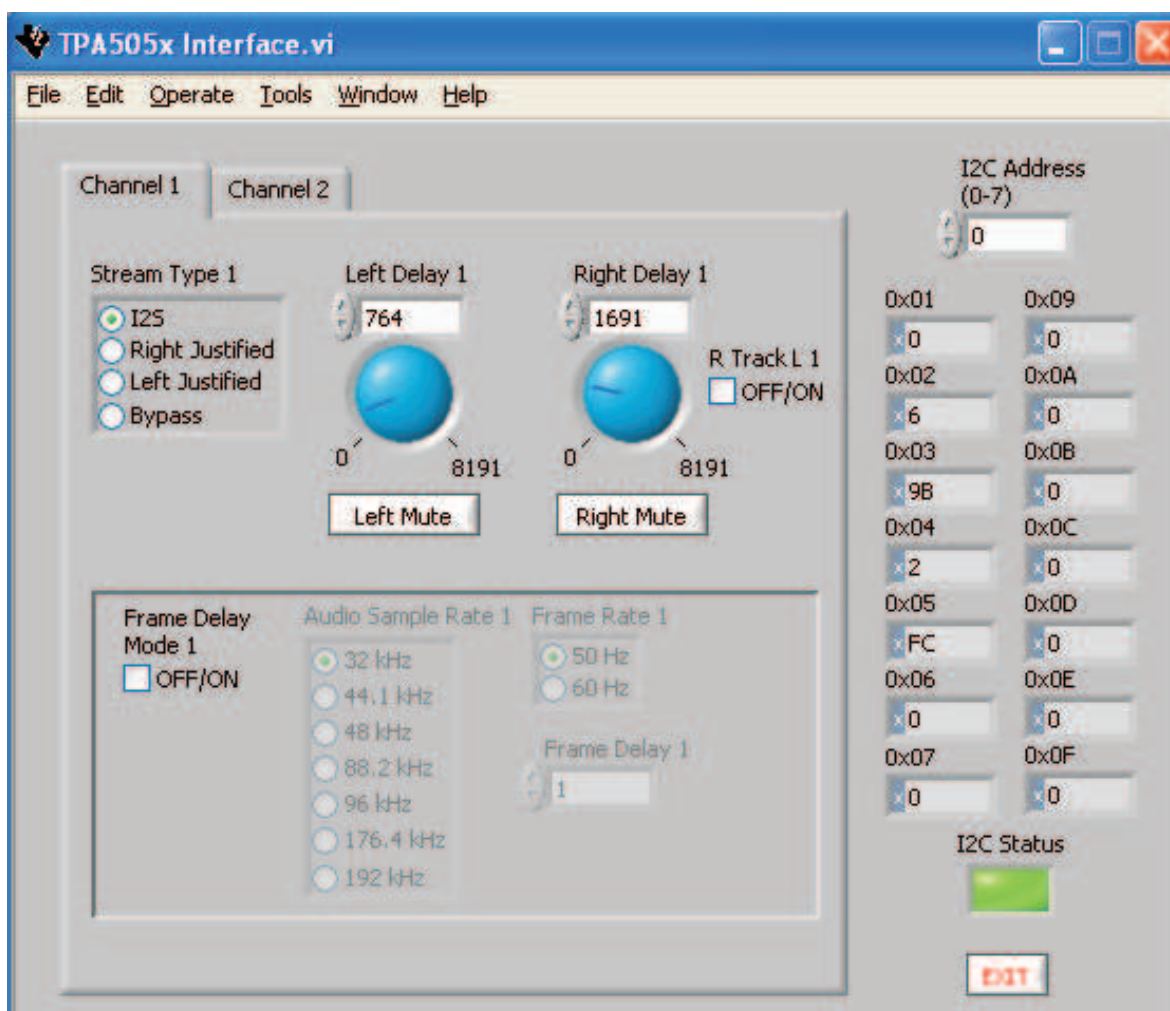

Figure 1. TPA5051 in I2S Mode With Separate Delays for Left and Right Channels
3. The right and left delays can be adjusted by turning the knob to the desired number of delay samples, or simply entering the number in the box provided (see Figure 1). The maximum number of delay samples per channel for the TPA5051 is 4095. The TPA505x software, however, allows for programming up to 8191 samples per channel. This is because the software is designed to work for both the TPA5050 and TPA5051. **A delay set above 4095 samples is not valid for the TPA5051.**